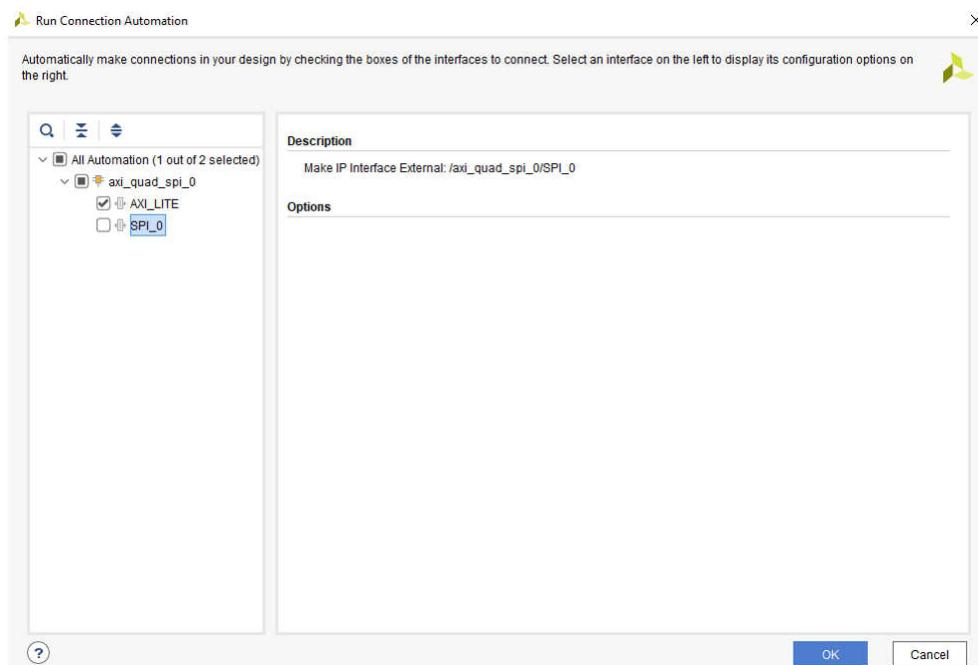

**Figure 5-8. Adding IP to Block Design**
12. Right click block design and add 'AXI Quad SPI' as shown in Figure 5-8 and Figure 5-9.